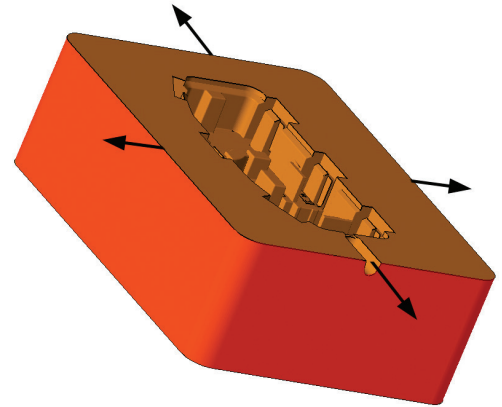

Figure 14: Extend side walls to provide machining stock.
- **Design both the core and cavity inserts such that they are 1.0 mm (0.04 in) larger than the pockets' profiles. Extend all side faces by 0.5 mm (0.02 in) (Figure 14). Make**